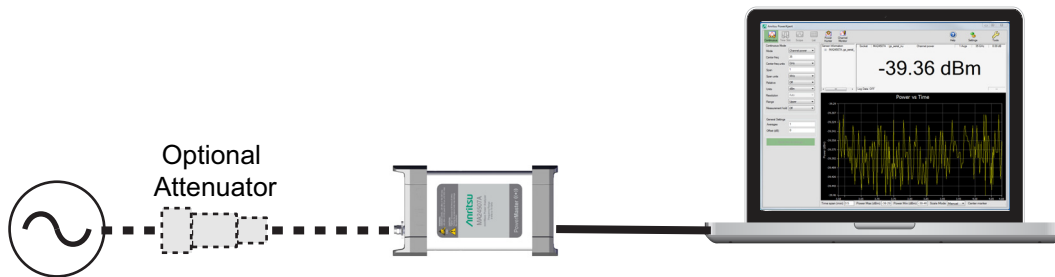

Figure 13-2. Measurement Setup
1. Connect the Power Master to a computer as shown in Figure 13-2.